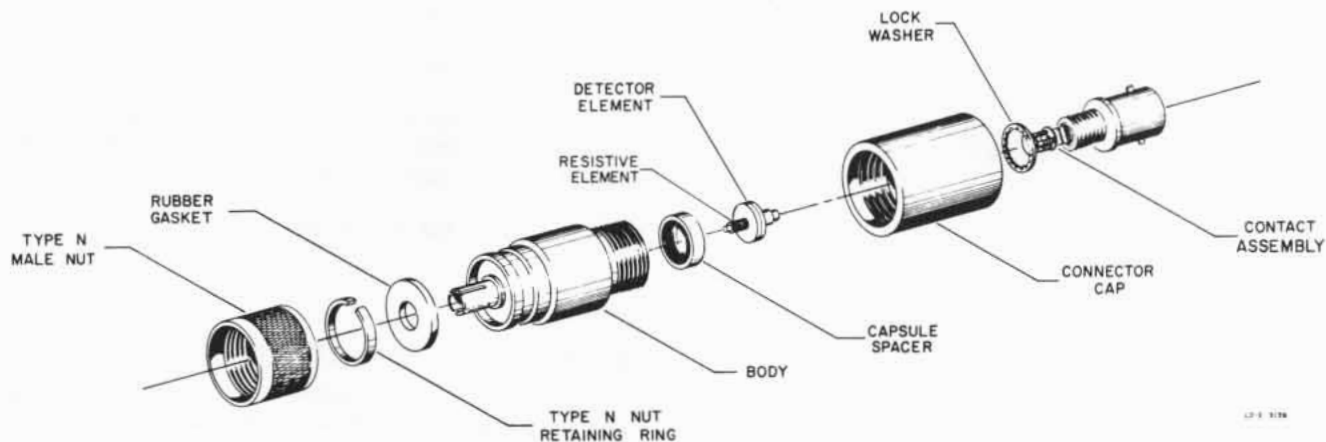

Figure 3. Model 423A Assembly
The special detector element (see Figure 3) contained in the Model 423A can be damaged in handling, removal, or installation if certain precautions are not taken. The handling precautions which follow should be read before performance of any operation with the detector element when it is out of either the Model 423A or the detector element shipping container.
26. Parts mentioned in the following procedure are identified in Figure 3.
29. PROCEDURE. Parts mentioned in the following procedure are identified in Figures 3 and 4.